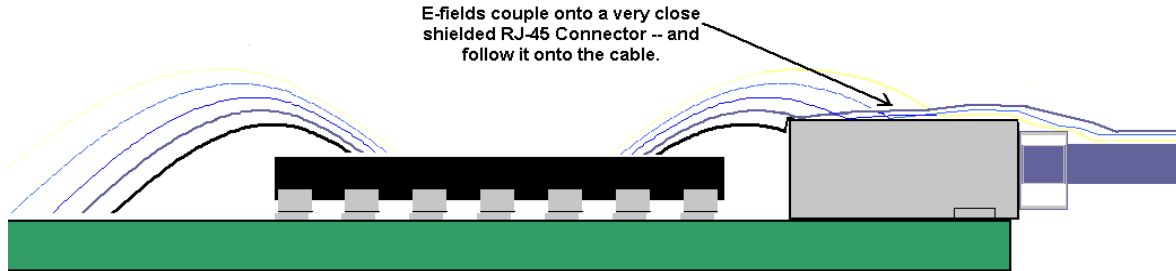
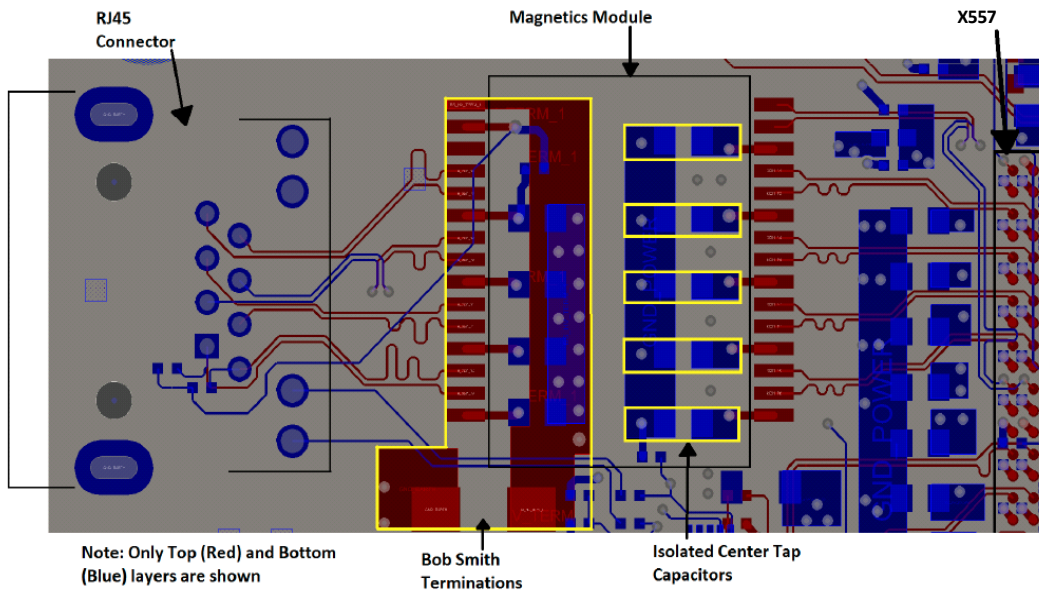

Figure 9-2 Effect of Device Placed Less Than One Inch from the RJ-45 Connector
Figure 9-3 Transformer Bypass Components
The X557, referred as a LAN silicon in Figure 9-3 and Figure 9-2, must be at least one inch from the I/O back panel. To help reduce EMI, the following recommendations should be followed:
The associated grounding scheme (blue) with the front-end of the chip is shown in the microstrip traces between the transformer and the RJ-45 (see Figure 9-3).
1. The ground is split underneath the magnetics, with the chassis ground being present under the front-end (Figure 9-3), and the circuit ground under the X557 side of the magnetics. Thus, the MDI traces on the line side are referenced to chassis ground.
5. In Figure 9-3, the Hi-POT clearance for cable discharge is shown and designed with ≥ 80 mils of clearance from the ground. Note that the breakdown voltage in FR-4 is lowest in the x-y axes planar to the PCB and highest in the z-axis between layers.